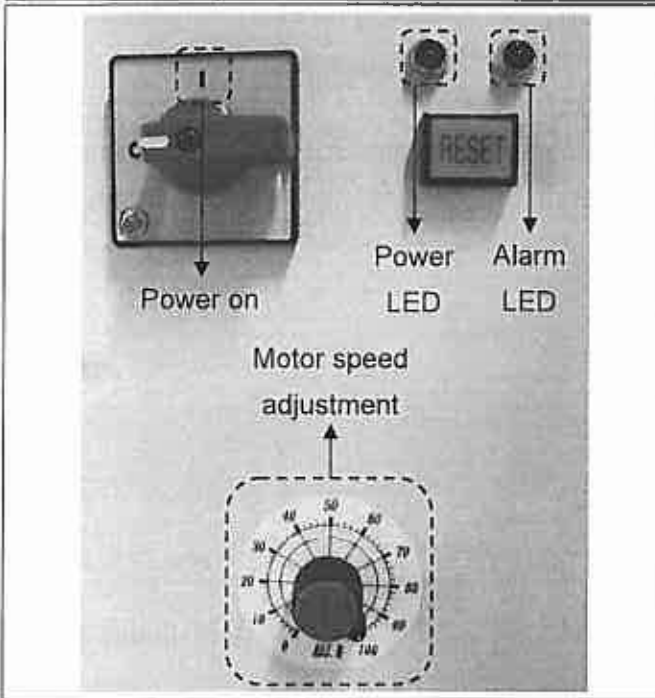

Figure 8-1
- A. Turn the power on (see Figure 8-1).
①The motor speed can be adjusted by rotating motor speed adjustment (see Figure 8-1). ①